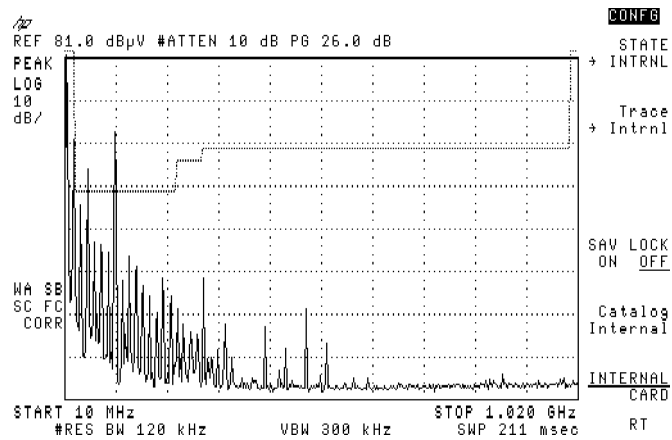

Figure 3-74. **INTERNAL** Underlined
2. Press **INTERNAL CRD**, **INTERNAL** will be underlined. See Figure 3-74.